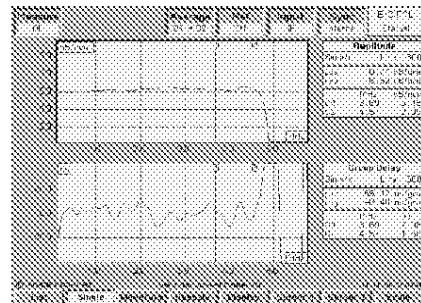

Fig. 10
- ☐ Configure the module with **Precorr on** and calibrate R39, R54, R73, R88, R44, R59, R78 and R91 to obtain the desired group delay mask, if needed calibrate R32, R45, R63, R81, R37, R50, R68, R86 and C49 to make the passing band flat; in case this cannot be done in the base band (the video parameters analyser has no group delay mask for the required standard) the calibration of the IF pre-corrector can be made using the AM receiver set with the trap on the audio carrier enabled, equalising the group delay in order to make it flat as in Fig.10 (thus automatically compensating the trap on the audio carrier of the receiver).